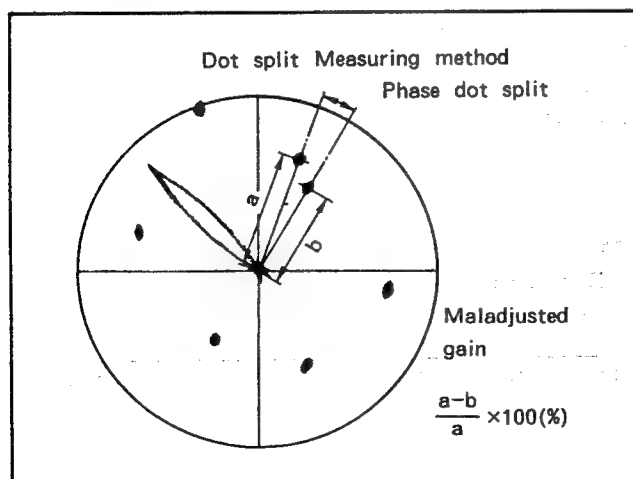

Fig. II-50
* Note: Measure dot split according to Fig. II-50.